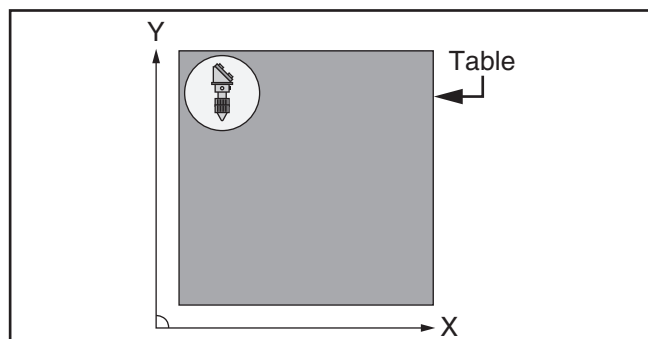

Figure 95. Laser head assembly in upper left corner of table.
13. Move laser head assembly to upper left corner of table (see **Figure 95**).